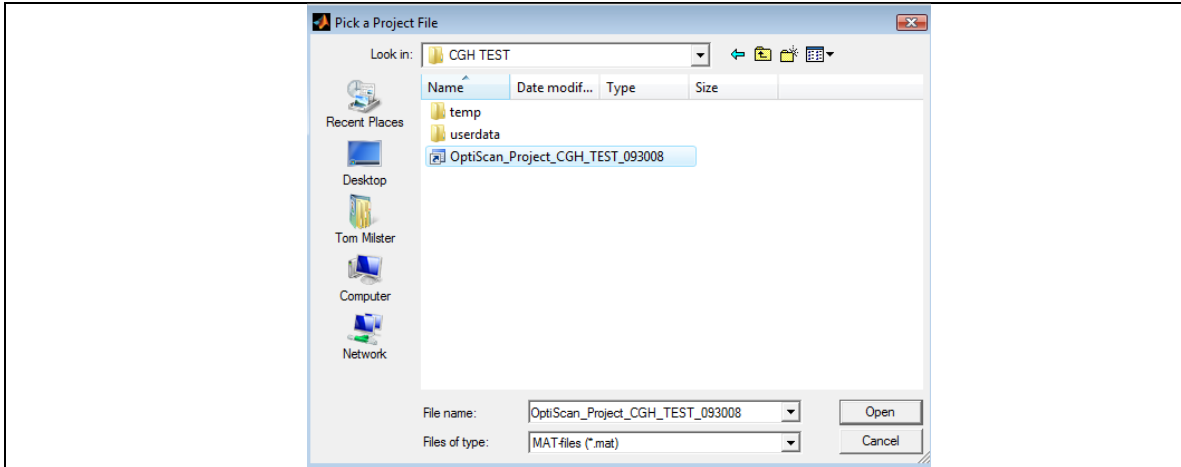

Figure 4. Opening a previously saved OptiScan project.
- 10.) When prompted to do so, browse to the desired project folder and select the OptiScan project file, as shown in Figure 4. After selecting the “Open” button, the project window should appear, as shown in Figure 3D.